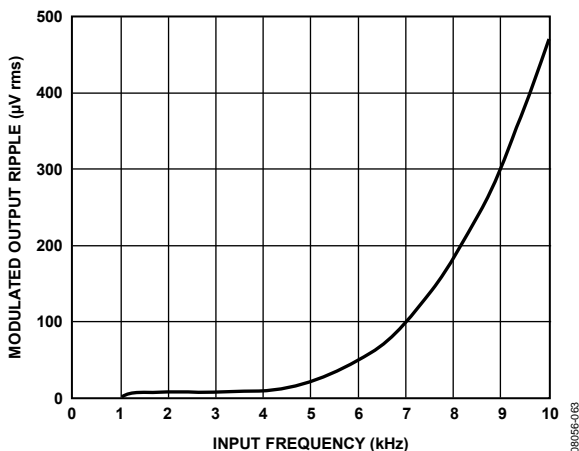

Figure 57. ADA4051-2 Modulated Output Ripple vs. Input Frequency
The remaining voltage ripple is composed of two ingredients. The first ripple's ingredient is due to the residual ripple associated with the initial offset of the  $G_{m1}$ . It is proportional to the magnitude of the initial offset and creates a spectrum at the chopping frequency ( $f_{CHOP}$ ). When the amplifier is configured as a unity gain buffer, this ripple has a typical value of  $4.9 \mu\text{V rms}$  and a maximum of  $34.7 \mu\text{V rms}$ . The second ripple's ingredient is due to the intermodulation between the high frequency input signal and the chopping frequency. It depends on the input frequency ( $f_{IN}$ ) and creates a spectrum at frequencies equal to the difference between the chopping frequency and the input frequency ( $f_{CHOP} - f_{IN}$ ) and at their summation ( $f_{CHOP} + f_{IN}$ ). The magnitude of the ripple for different input frequencies is shown in Figure 57.
- No affect on the desired input signal as long as its frequency is much lower than the chopping frequency shown in Figure 57